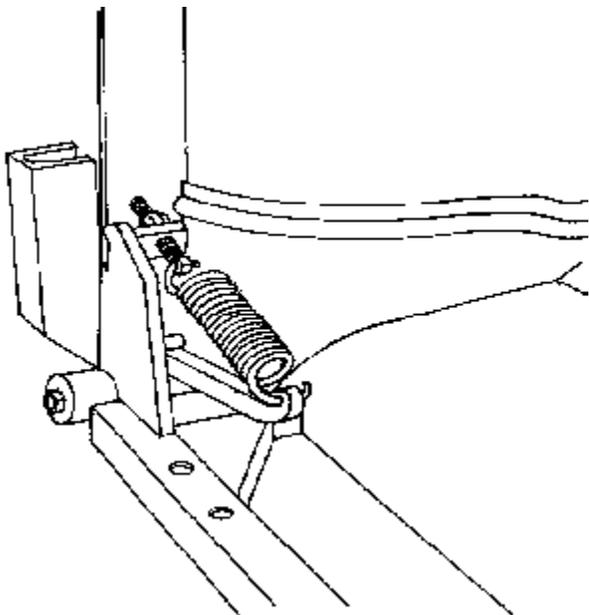

FIG 1.
2. If the Extension Boom releases too easily the tension can be increased by tightening the nut. See FIG. 1